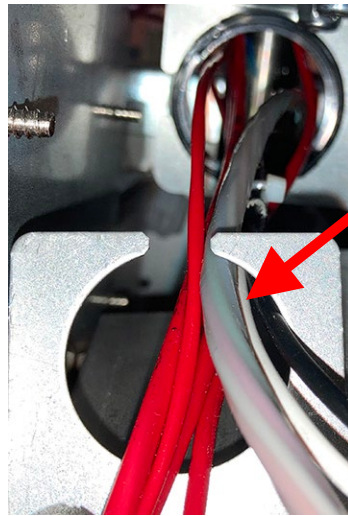

Figure 29
28. Ensure all the wires are in the slotted hole and slip the Heyco split bushing around the wires and snap back into place (see Figures 29 and 30).